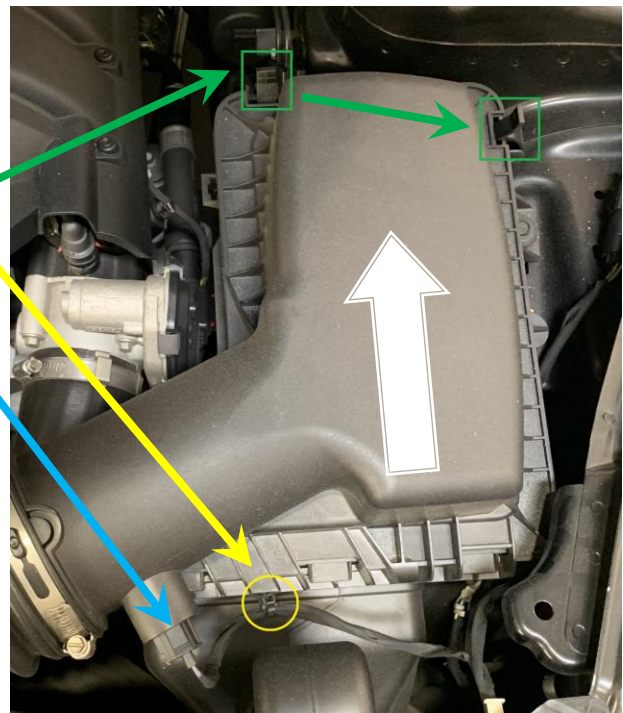

Fig. 32
1. Slide Airbox back into position such that forward locking slots interlock between cover and base. See Fig. 32
3. push wiring plastic clip back into position. See Fig. 32
4. Push AIT connector back into sensor. See Fig. 32